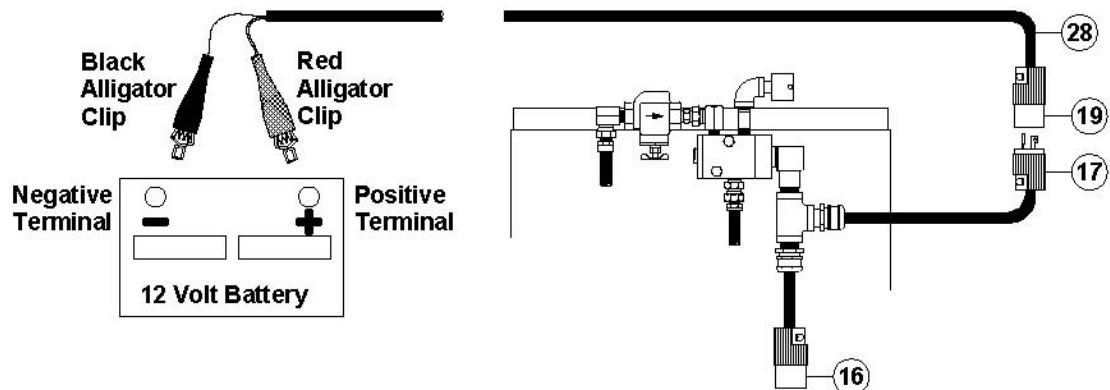

Figure 6.1 – Electric power connection
- 6.1.14. Connect the electric power cord alligator clips (#28) to the air compressor battery terminals or to another 12Vdc power source. See Figure 6.1.